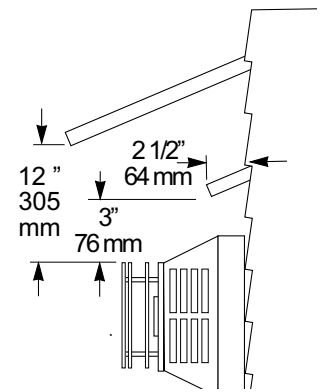

Figure 20. Termination Clearance to overhangs.
- The horizontal termination cap must maintain a 3" clearance to any overhead combustible projections 2 1/2" or less. It must also maintain 12" clearance from projections exceeding 2 1/2". See fig. 20.